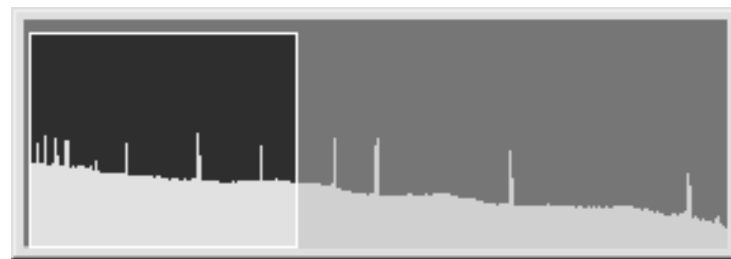

Fig. 3. Contents of Expanded Spectrum Window are Highlighted in Full Spectrum Window.
5. **Full Spectrum Window**, showing the full histogram from the file or the Detector memory, and indicating which part of the spectrum is now displayed in the Expanded Spectrum Window. The vertical scale is always logarithmic. The expanded part of the spectrum is highlighted in a different color than the rest of the spectrum (see Fig. 3). Clicking on any part of the spectrum in this window will display that part of the spectrum in the expanded window;